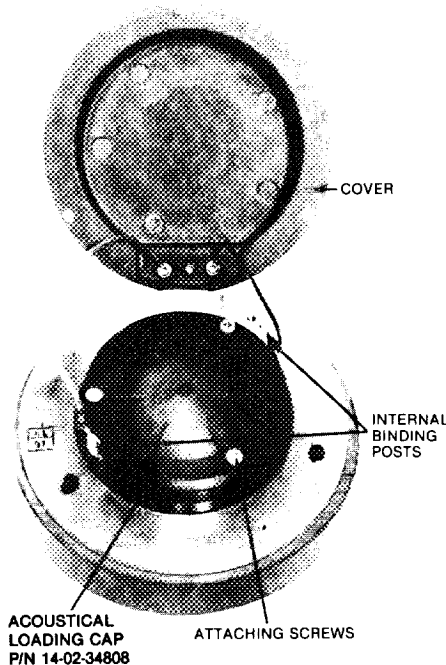

Figure 2. Driver with Acoustical Loading Cap
4. Lift cover from driver and remove two leads from internal binding posts; set cover aside. Note that the driver is equipped with an acoustical loading cap (Figure 2).
5. Remove three screws securing acoustical loading cap (Figure 2) and set aside loading cap.